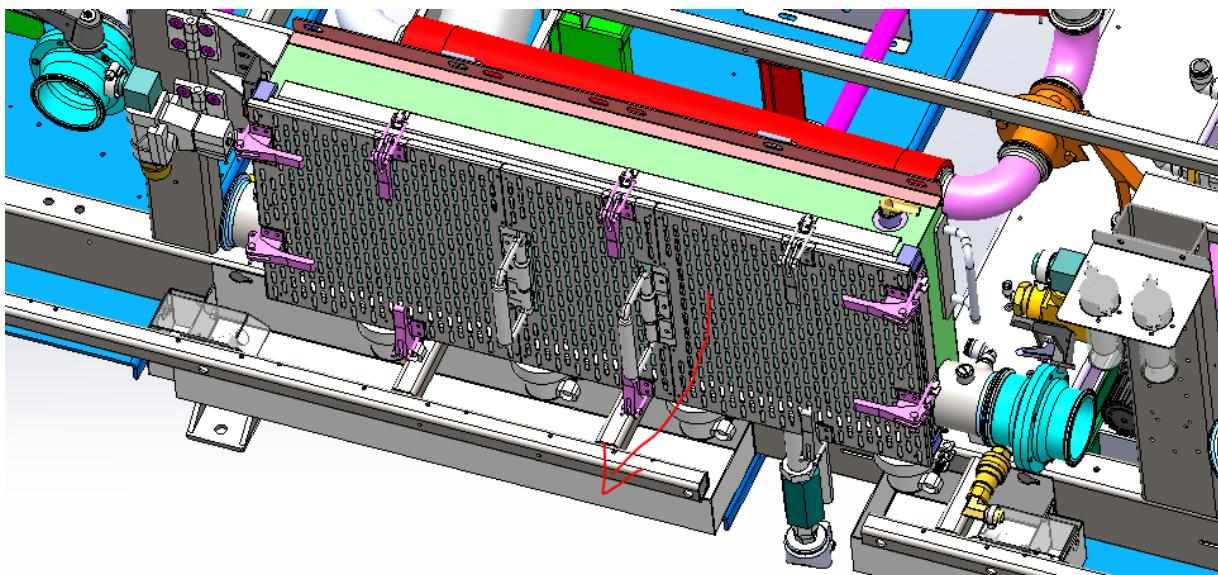
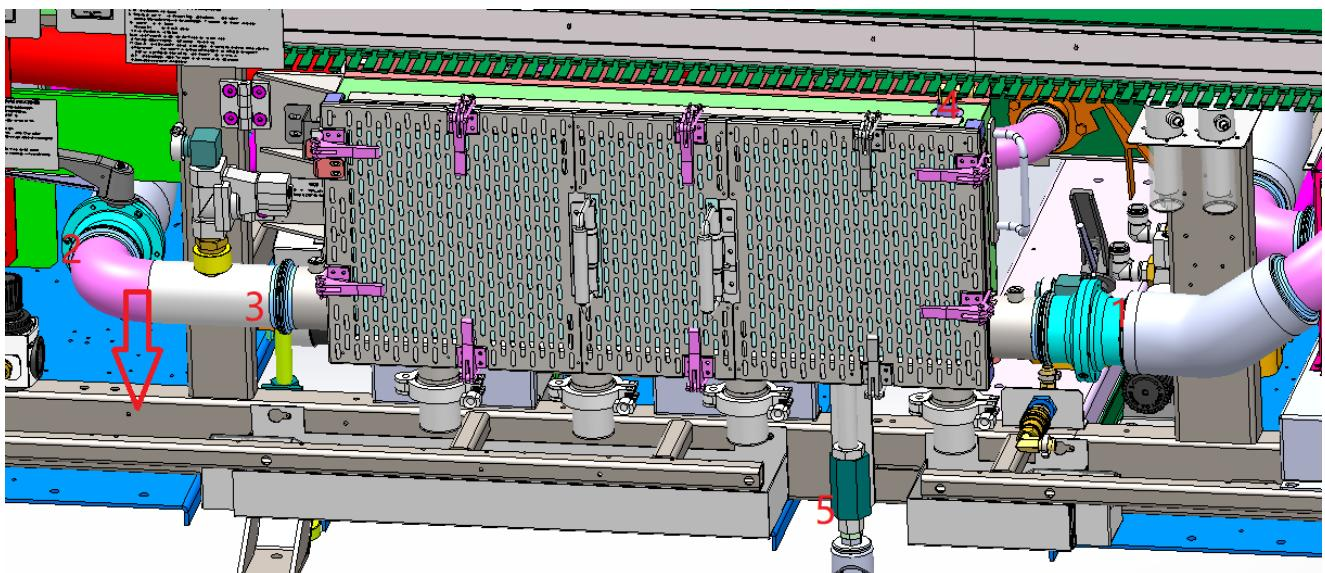

Fig 6
Fig 7
6. Remove quick clamp , water tube , caster adjust to floor , rotate big flux box to outside (see Fig 6/Fig 7)